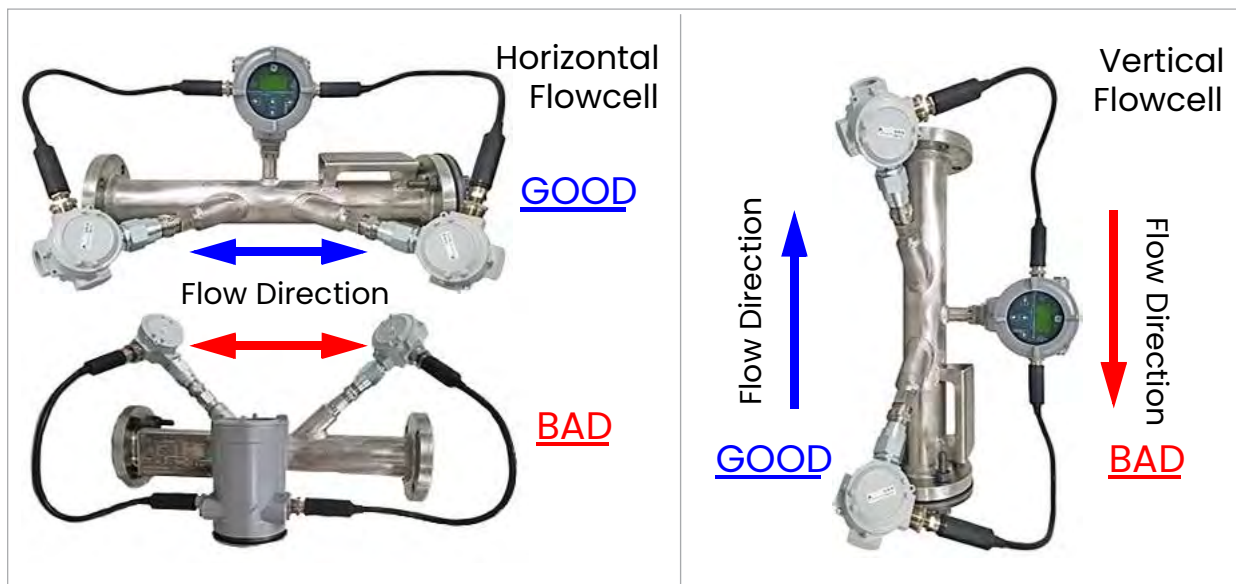

Figure 3: Good and bad flowcell/transducer orientations
- Locate the transducers on a common axial plane along the pipe. Also, locate them on the side of the pipe instead of on the top or the bottom, because the top of the pipe tends to accumulate gas and the bottom tends to accumulate sediment. Either condition will cause unwanted attenuation of the ultrasonic signals. There is no similar restriction with vertical pipes, as long as the fluid flow is upward to prevent free falling of the fluid or a less than full pipe (see Figure 3 below).